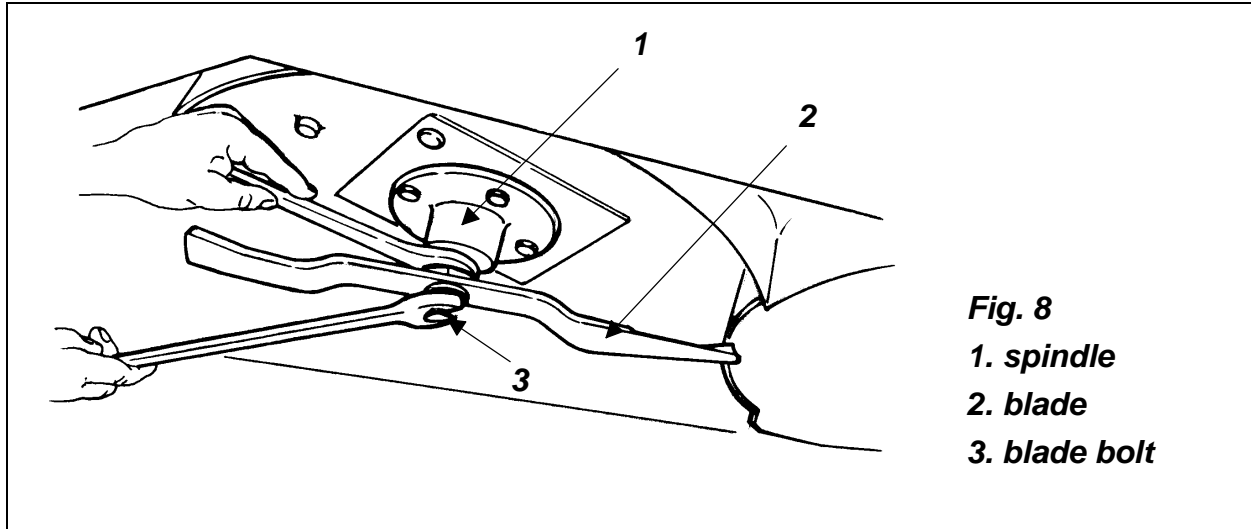

Fig. 8
3. With a wrench, block the spindle and tighten the bolt to 103 lb.ft. (**see fig. 8**).